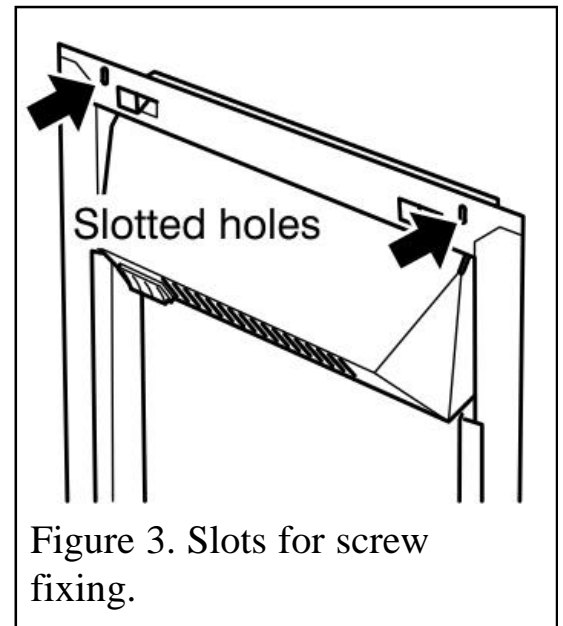

Figure 3. Slots for screw fixing.
2. For drilling into brickwork you will need a power drill (preferably with hammer action) and appropriate size drill bit for the wall plugs supplied (See figure 3).
2. There are two slotted holes in the top of the heater (See figure 3). Mark through the slotted holes so that their position is clear when the heater is removed.